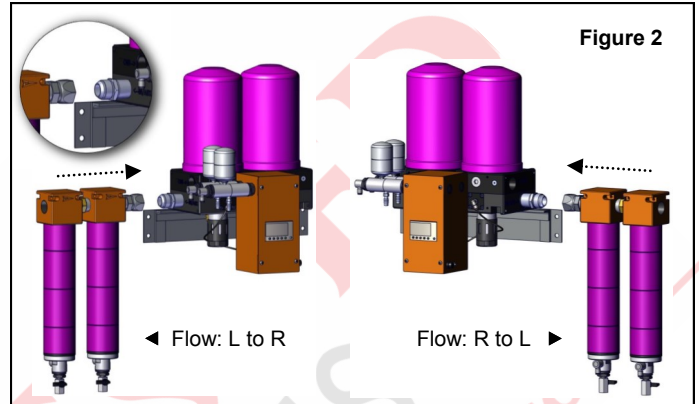

Figure 2
4. Using an adjustable or 1-3/8" wrench, connect the supplied FEMALE JIC fitting to the outlet port of the Tsunami pre-filter assembly. Use appropriate thread sealant. Figure 2
6. Using the appropriate thread sealant, install the MALE JIC connector to either the left or right INLET / AUX port of the dryer. Figure 2